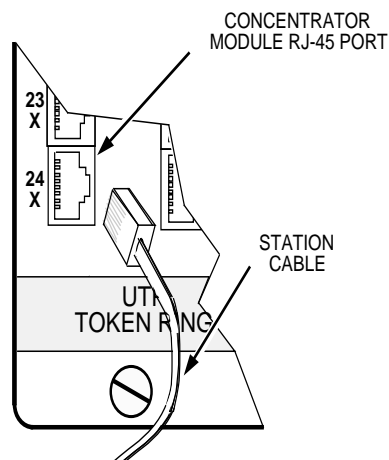

Figure 3-4. Connecting Stations to the Concentrator Module
2. Insert the male RJ-45 connector from one end of the station cabling into any TCU port (1X through 12X or 24X) at the front of the concentrator module (see Figure 3-4).
Connect the stations to the concentrator module using a Type 3 patch cable. Attach one end of the patch cable at the wall plate and the other to the station port (see Figure 3-4).